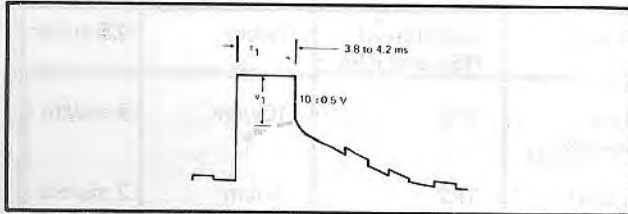

Figure 4-10. TP3 - RING COUNTER WAVEFORM.
4-54. The signal at TP3 (Figures 4-10 and 4-11) is convenient for evaluation of the ring counter. The signals at the collectors of Q20 through Q24 are identical, but are displaced in time.
- In the waveform shown in Figure 4-10, t_1 should be 3.8 to 4.2 milliseconds. If t_1 is not correct, check clock signal duration. It should be 4 ± 0.2 milliseconds duration.